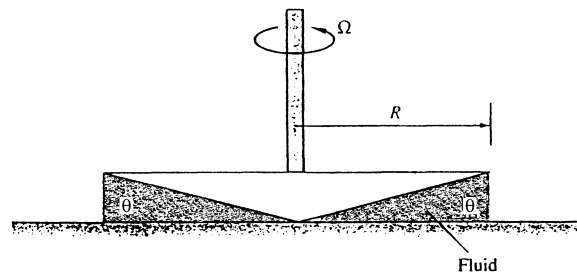

Fig. P5.35
**5.35** The torque  $M$  required to turn the cone-plate viscometer in Fig. P5.35 depends upon the radius  $R$ , rotation rate  $\Omega$ , fluid viscosity  $\mu$ , and cone angle  $\theta$ . Rewrite this relation in dimensionless form. How does the relation simplify if it is known that  $M$  is proportional to  $\theta$ ?